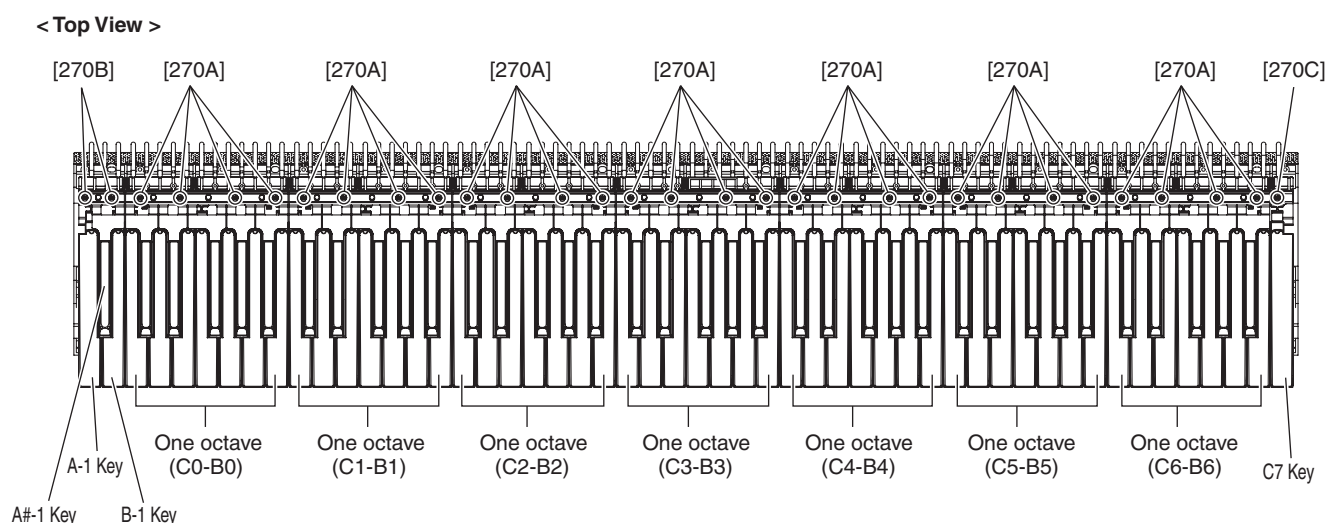
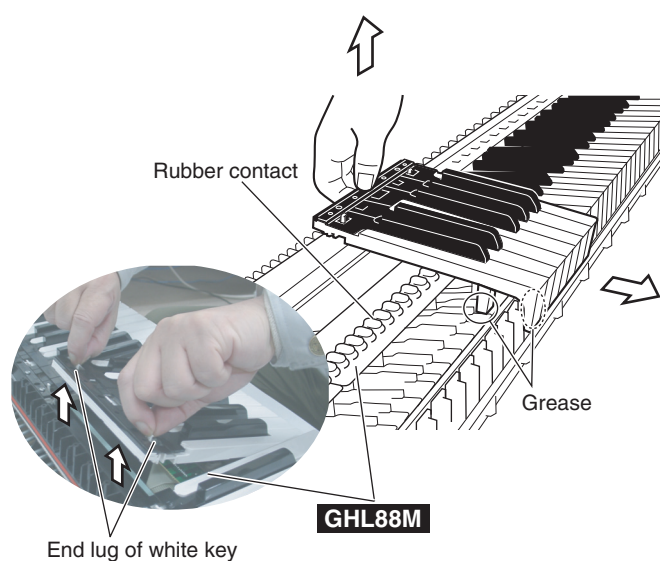

Fig.7
Fig.8
To remove the black and white key assemblies for one octave, grip and lift the both end lugs of white key, and then slide the black and white key assemblies toward you. (Fig.7, Fig.8)
- 7-2 When removing white keys numbered as A-1 and B-1 key and black key numbered as A#-1, remove two (2) screws marked [270B] and then lift the back of the keys and slide the black and white keys towards you. (Fig.7)
- 7-3 When removing the C7 key, remove a screw marked [270C] and then lift the back of C7 key and slide it towards you. (Fig.7)
* **When removing white key assembly and black key assembly, be careful not to allow grease to attach to the circuit board and rubber contacts, etc. (Fig.8)**
8-8 Use the two (2) screws marked [270B] to fix the A-1 to B-1 keys. (Fig.7)
8-9 Use a screw marked [270C] to fix the C7 key. (Fig.7)
Use the four (4) screws marked [270A] to fix 1 octave white key assembly/black key assembly. (Fig.7)